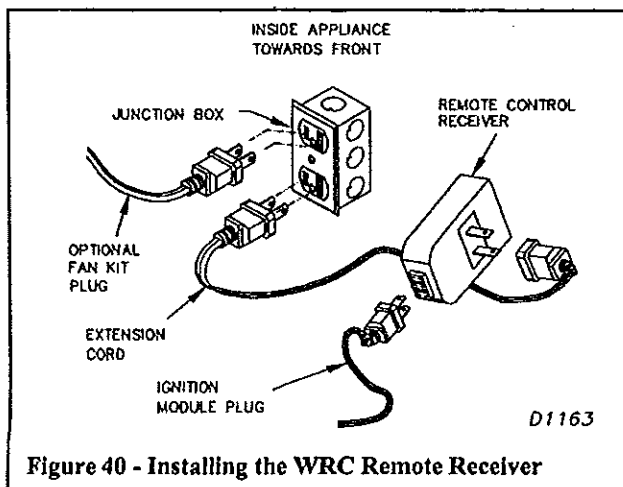

Figure 40 - Installing the WRC Remote Receiver
3. The WRC model receiver does not require a battery and can be installed by plugging the extension cord into one of the outlet receptacles on the outlet box, then plug the receiver unit into the extension cord and finally plug the ignition module into the receiver unit, see Figure 40.